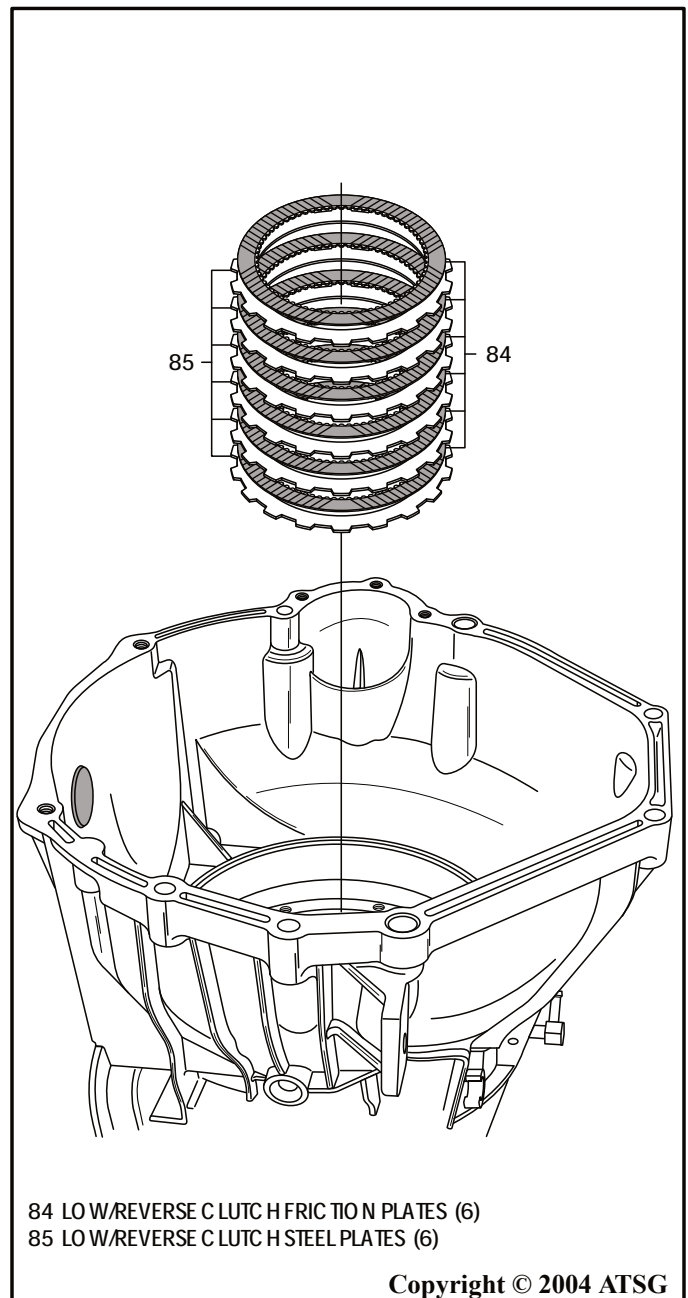

Figure 167
10. Re-install low/reverse clutch plates, as shown in Figure 167, beginning with a steel plate and alternating with friction plates, until you have installed six of each.